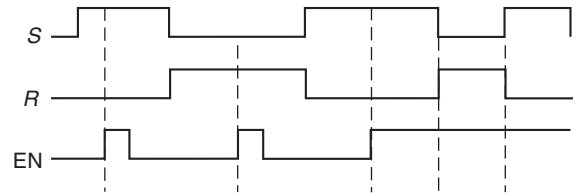

Fig. 12.66 Input Waveforms.
33. Determine the Q output waveform if the inputs shown in Fig. 12.66 are applied to a gated S-R latch that is initially Reset.